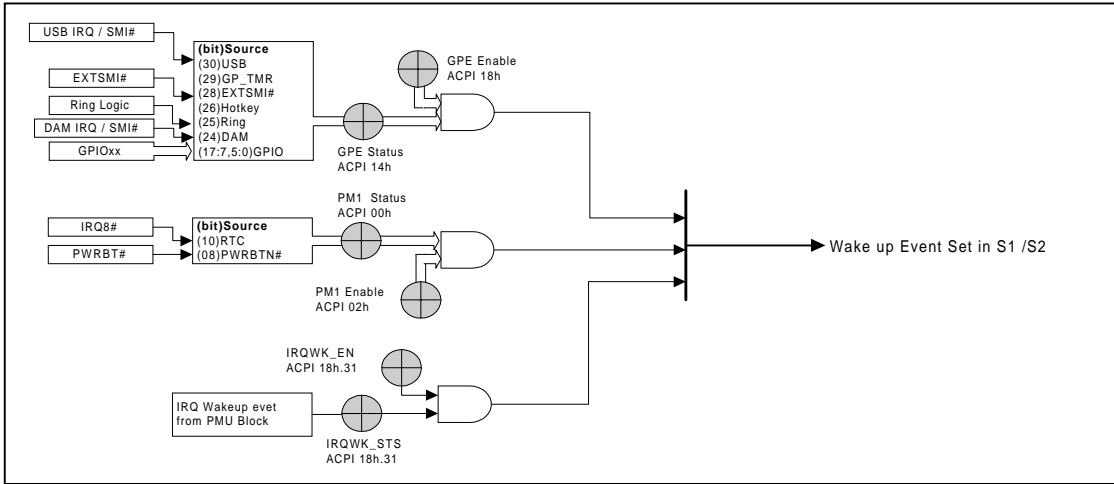

Figure 3.2-2 Wake up events in S1 / S2
- 4) When the system is awoken, the WAK_STS is set with the assertion of RSTDRV, re-enabling the ISA bus, unmasking the ISA commands, and finally de-asserting the STPCLK# in about 4ms. A period of 4ms is reserved to allow the CPU/PLL stabilization. A set of wake up events illustrated in Figure 3.2-2 Wake up events in S1 / S2 are supported to wake up the system in the S2 state.